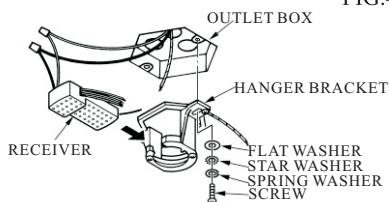

FIG.5
1. Securely attach the hanger bracket to the outlet box by washers and screws supplied. Connect white wire from ceiling to white wire from receiver with wire nut. Connect black wire from ceiling to black wire from receiver with wire nut. (See fig.5)